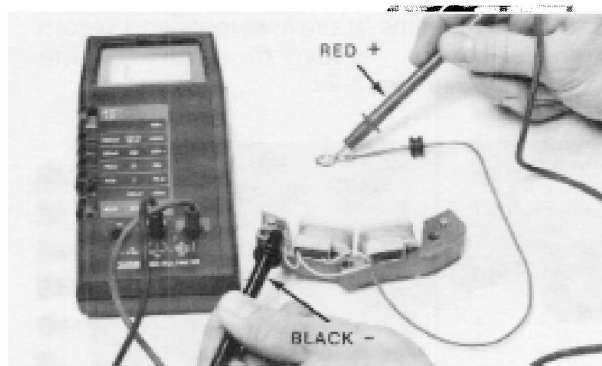

Figure 3-25
6. Check the diode and coil assembly with a volt-ohmmeter. The meter in Fig. 3-25 indicates a resistance of infinity when a numeral one appears to the left of the decimal point. The measurement should be infinity when the positive probe of the meter is placed on the output wire. See Fig. 3-25. The negative probe is connected to the ground terminal of the alternator coil.